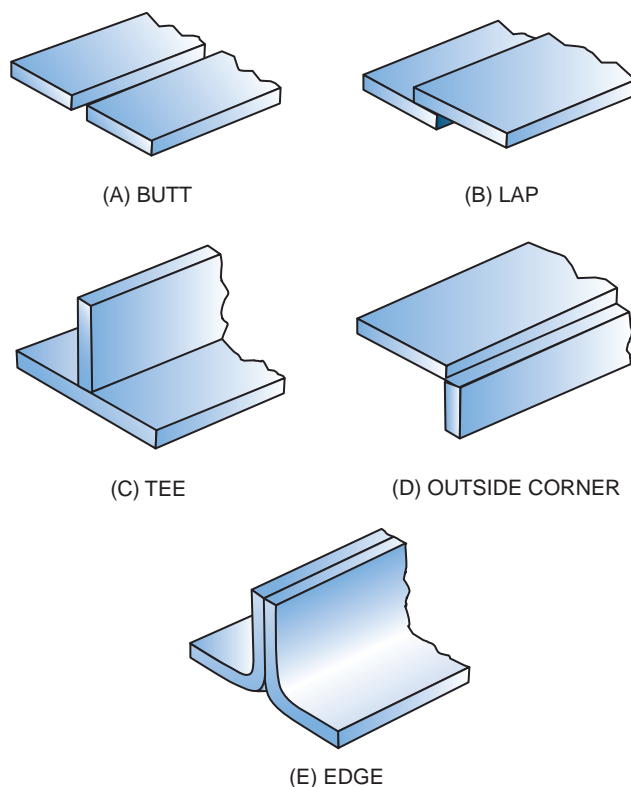

FIGURE 17-2 Types of joints.
- **Joint type**—The type of joint is determined by the way the joint members come together, Figure 17-2.